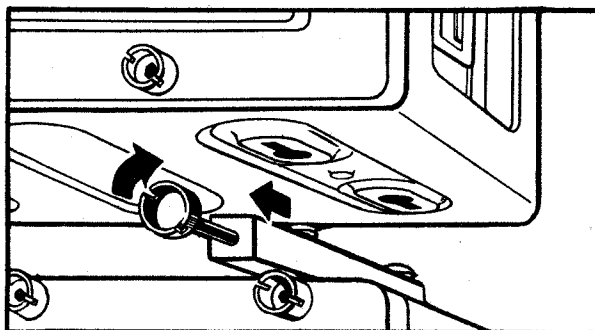

Figure 3-18. Attaching Cabinet Fasteners
Step 3. Place the RDR receiver on top of the fasteners with the holes in the keyhole slots over the buttons on the fasteners. See Figure 3-18.